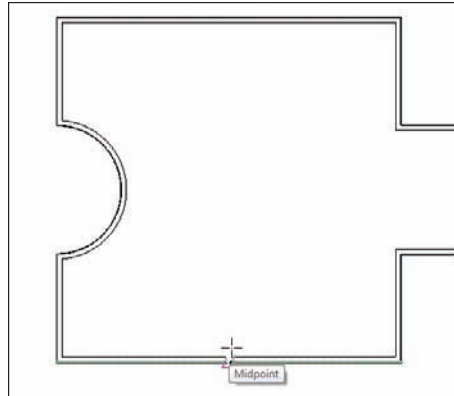

FIGURE 2.18 Adding the new walls requires picking the midpoint of this wall. Make sure your offset is set to 15'-0" on the Options bar.
8. Pick the midpoint of the wall, as shown in Figure 2.18.